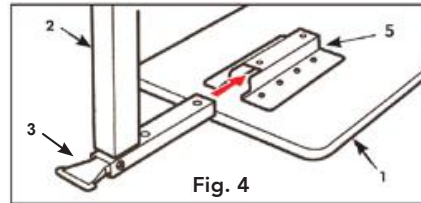

Fig. 4
3. While holding the Release Handle (3) securely in place on top of the Trip Rod (not shown), flip the Column Assembly (2) upside down and insert it into the table top Mounting Bracket (5) as shown in Fig. 4